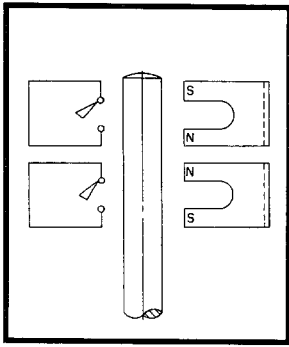

Figure 7. Prefill open, extended telltale rod interrupt magnetic field and opens switches (508280C).
**1. Limit Switches.** Refer to Figures 7 and 8. When the prefill plunger is in the **Open** position, the telltale rod (20) is positioned as shown in Figure 7, the rod interrupts the magnetic field and the switches are open. When the prefill plunger is in the **Closed** position, the telltale rod is retracted and the magnetic field closes the normally open switches.